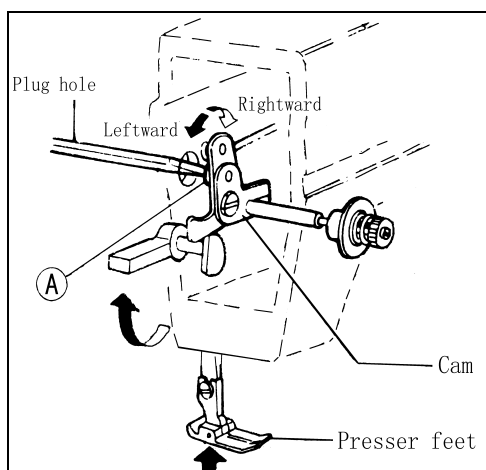

Fig. 29
20. ADJUST OPENING TIME OF THE TENSION DISCS (Fig.29)